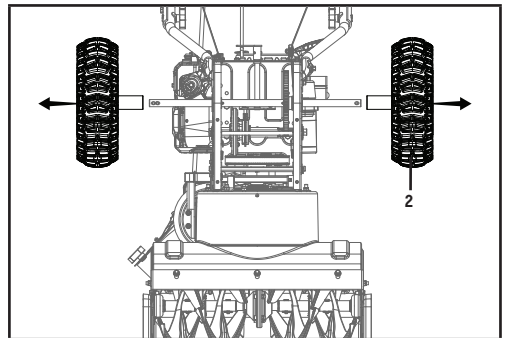

Figure 45B
3. Remove the right wheel (2) by removing the axle pin on it (Fig. 45B).